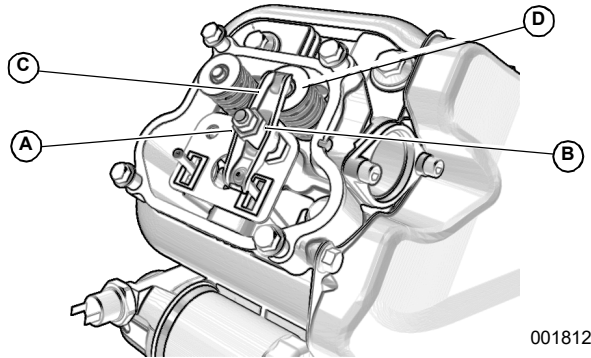

Figure 3-15. Adjusting Valve Clearance
1. See **Figure 3-15**. Loosen rocker arm jam nut (A). Turn pivot ball stud (B) while checking clearance between rocker arm and valve stem with a feeler gauge.
2. See **Figure 3-15**. When clearance is correct, hold pivot ball stud with wrench and tighten rocker arm jam nut to specified torque. After tightening jam nut, recheck valve clearance.
See **Figure 3-15**. Check and adjust the valve to rocker arm clearance as follows: